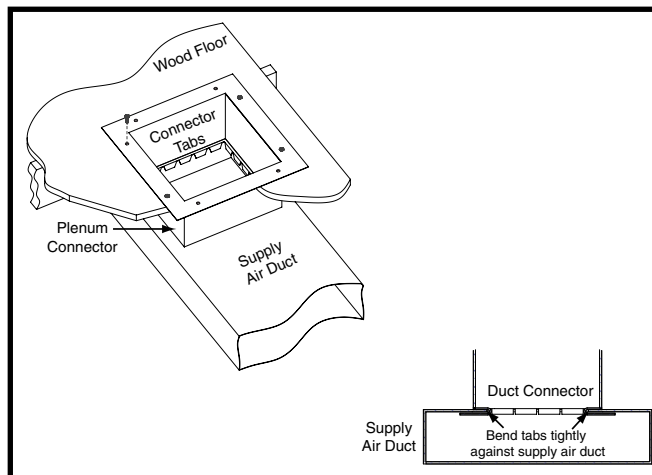

Figure 5. Duct Connector Installed
- Install the duct connector back in the floor opening with the bottom tabs extending into the supply air duct. See Figure 5.
- Bend the connector tabs on the bottom of the plenum connector upwards and as tight as possible against the supply air duct. See Figure 5.